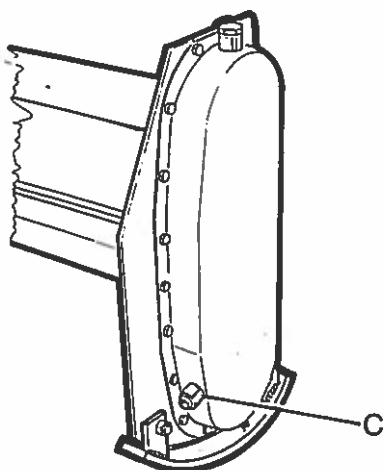

FIG. 15
- CONTROLLARE IL LIVELLO DELL'OLIO DEL CARTER. (FIG. 15 - POS. C)
- SMONTARE IL CARTER, PULIRE GLI INGRANAGGI CON PETROLIO, RIEMPIRE FINO AD ARRIVARE AL TAPPO DI LIVELLO LITRI 1,5 (FIG. 15)
- CHECK THE OIL LEVEL OF THE SIDE TRANSMISSION. (FIG. 15 - POS. C)
- TAKE OFF THE SIDE TRANSMISSION COVER, CLEAN GEARS WITH PETROLEUM, FILL WITH OIL UP TO PLUG (1,5 LITERS) (FIG. 15).
- CONTROLER LE NIVEAU D'HUILE DU CARTER. (FIG. 15 - POS. C)
- DEMONTER LE CARTER, NOTTOYER LES PIGNONS A L'ESSENCE PUIS REMPLIER D'HUILE JUSQU'AU SOMMET DU NIVEAU DE CONTROLE (LITRES 1,5) (FIG. 15).
- KONTROLLE DES OLNIVEAUS IM SEITENANTRIEN. (FIG. 15 - POS. C)
- SEITENANTRIEB ABMONTIEREN, DIE ZAHRAEDERN MIT ERDOEL REINIGEN, MIT OEL FUELLEN BIS ZUR OELNIVEAUSCHRAUBE (1,5 LITER) (FIG. 15).
- CONTROLAR EL NIVEL DEL ACEITE DEL CARTER. (FIG. 15 - POS. C)